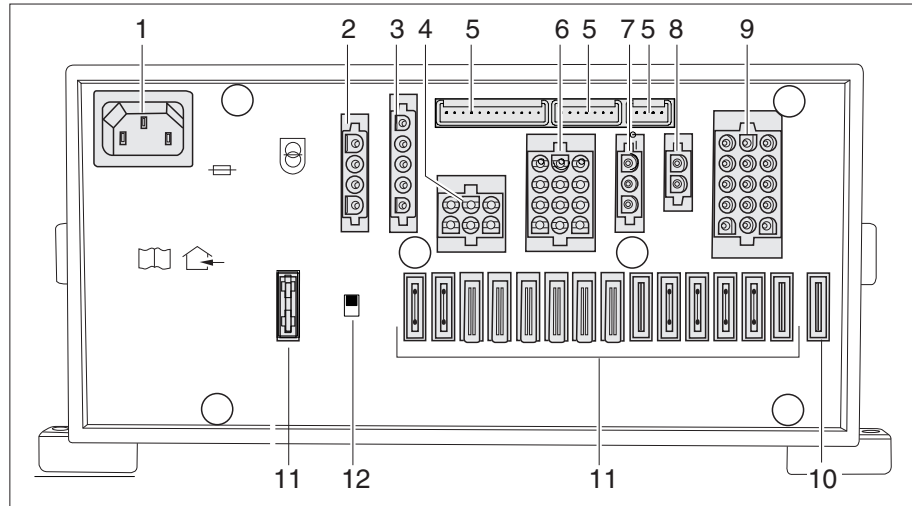

Fig. 240 Transformer/rectifier (EBL 111)
- ▷ The battery cut-off switch (Fig. 240,12) disconnects all the appliances that are connected to the transformer/rectifier from the 12 V network.